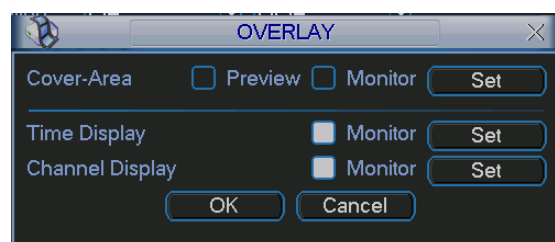

Figure 3-18
- Overlay: Click overlay button, you can see an interface is shown in Figure 3-18.